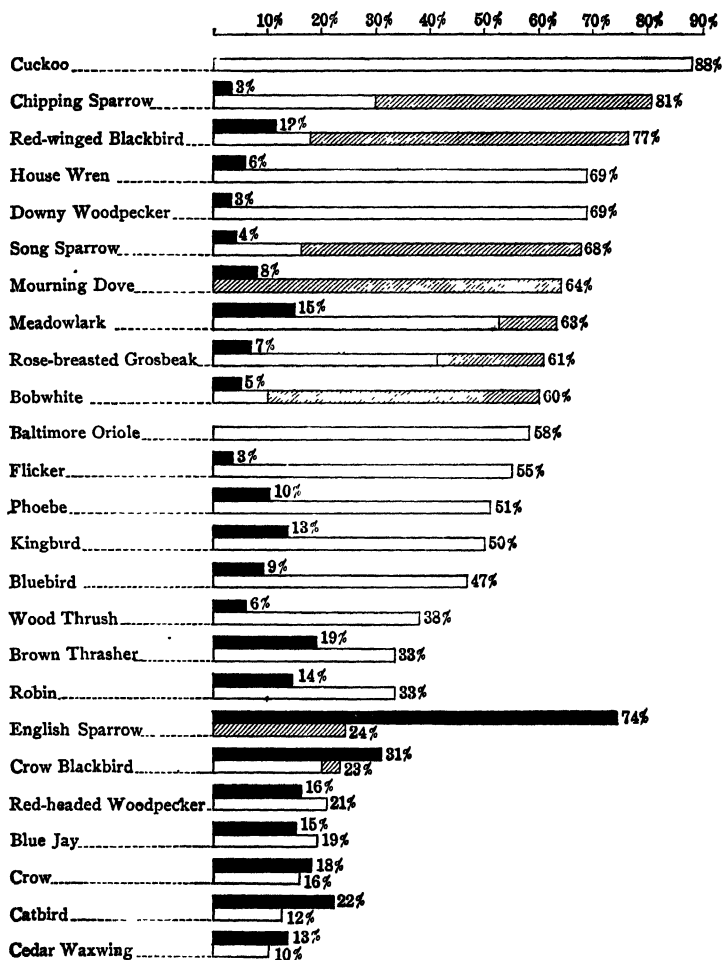

FIG. 183. — Food Chart of 25 Common Birds.
12. Arrange the birds according to the ratio between the good and harm done. Place the cuckoo and oriole at the head of the list. For the others divide the percentage of good done by the percentage of harm done. For example, for the chipping sparrow divide 81 by 3 (27). Do the same with the others and arrange them in order, the bird with the largest number first. Which five birds stand first in the list? Which five last?
13. (Optional.) If you wish you may make a chart from this table similar to the one in Figure 183. This chart is to represent the ratio between the good and harm done. Let one inch represent 5. Then for the chipping sparrow draw a line $5\frac{1}{3}$ ($\frac{27}{5}$) inches long. In a similar way draw lines for the other birds, arranging them in the order of the length of the line, the longest first. Make the lines for the cuckoo and oriole two inches and one inch, respectively, longer than that for the chipping sparrow.